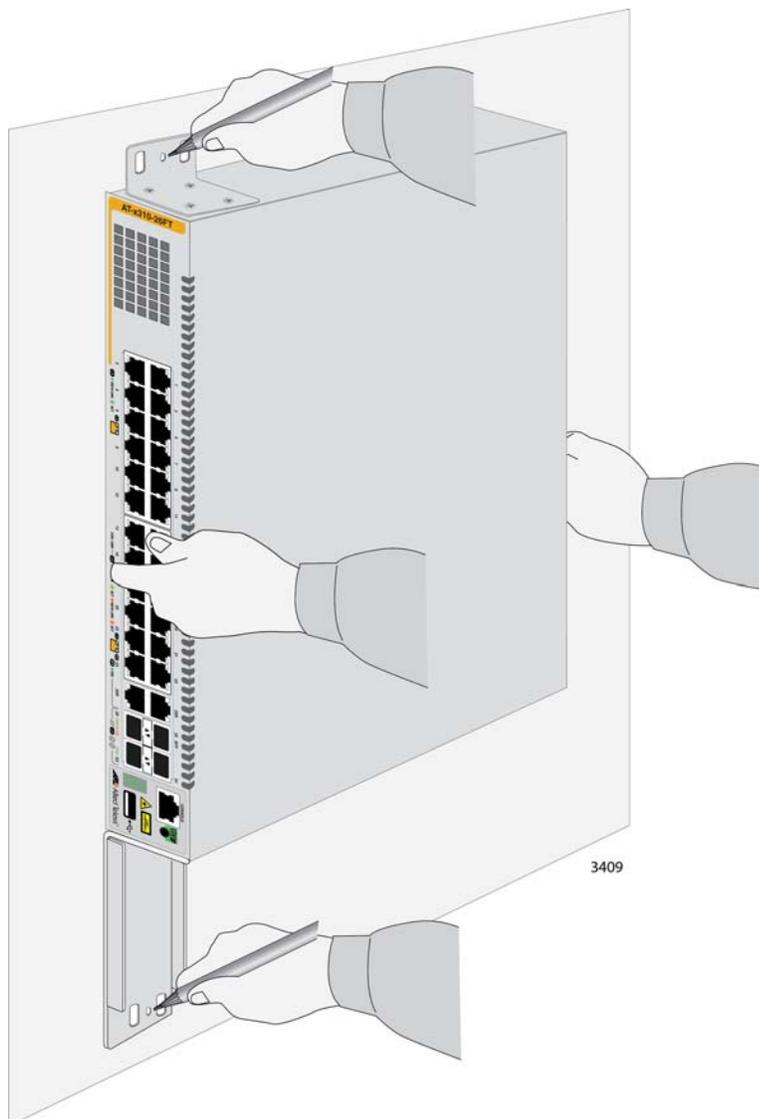

Figure 27. Marking the Locations of the Bracket Holes on a Concrete Wall
5. Have another person hold the switch on the concrete wall at the selected location for the device while you use a pencil or pen to mark the wall with the locations of the two screw holes in the brackets. Refer to Figure 27. Be sure that the selected location adheres to the recommendations in “Recommended Minimum Wall Area Dimensions” on page 66.